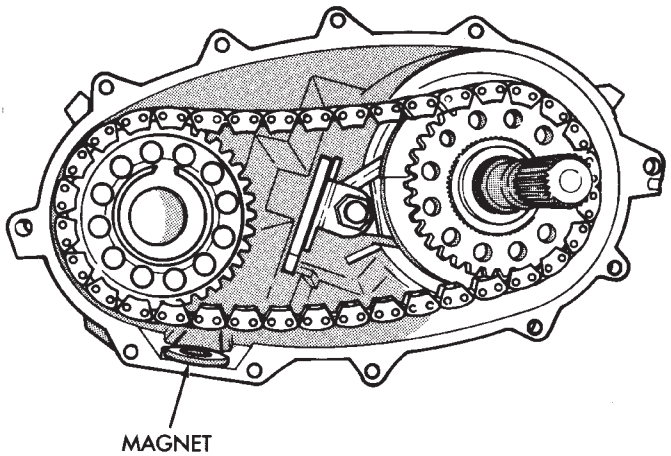

Fig. 86 Installing Case Magnet
- (2) Install magnet in front case pocket (Fig. 86).
- (3) Apply 3 mm (1/8 in.) wide bead of Mopar gasket maker or silicone adhesive sealer to seal surface of front case.
- (4) Align and install rear case on front case. Be sure case locating dowels are in place and that mainshaft splines are engaged in oil pump inner gear.
- (5) Install and tighten front case-to-rear case bolts to 41 N-m (30 ft. lbs.) torque. **Be sure to install a**